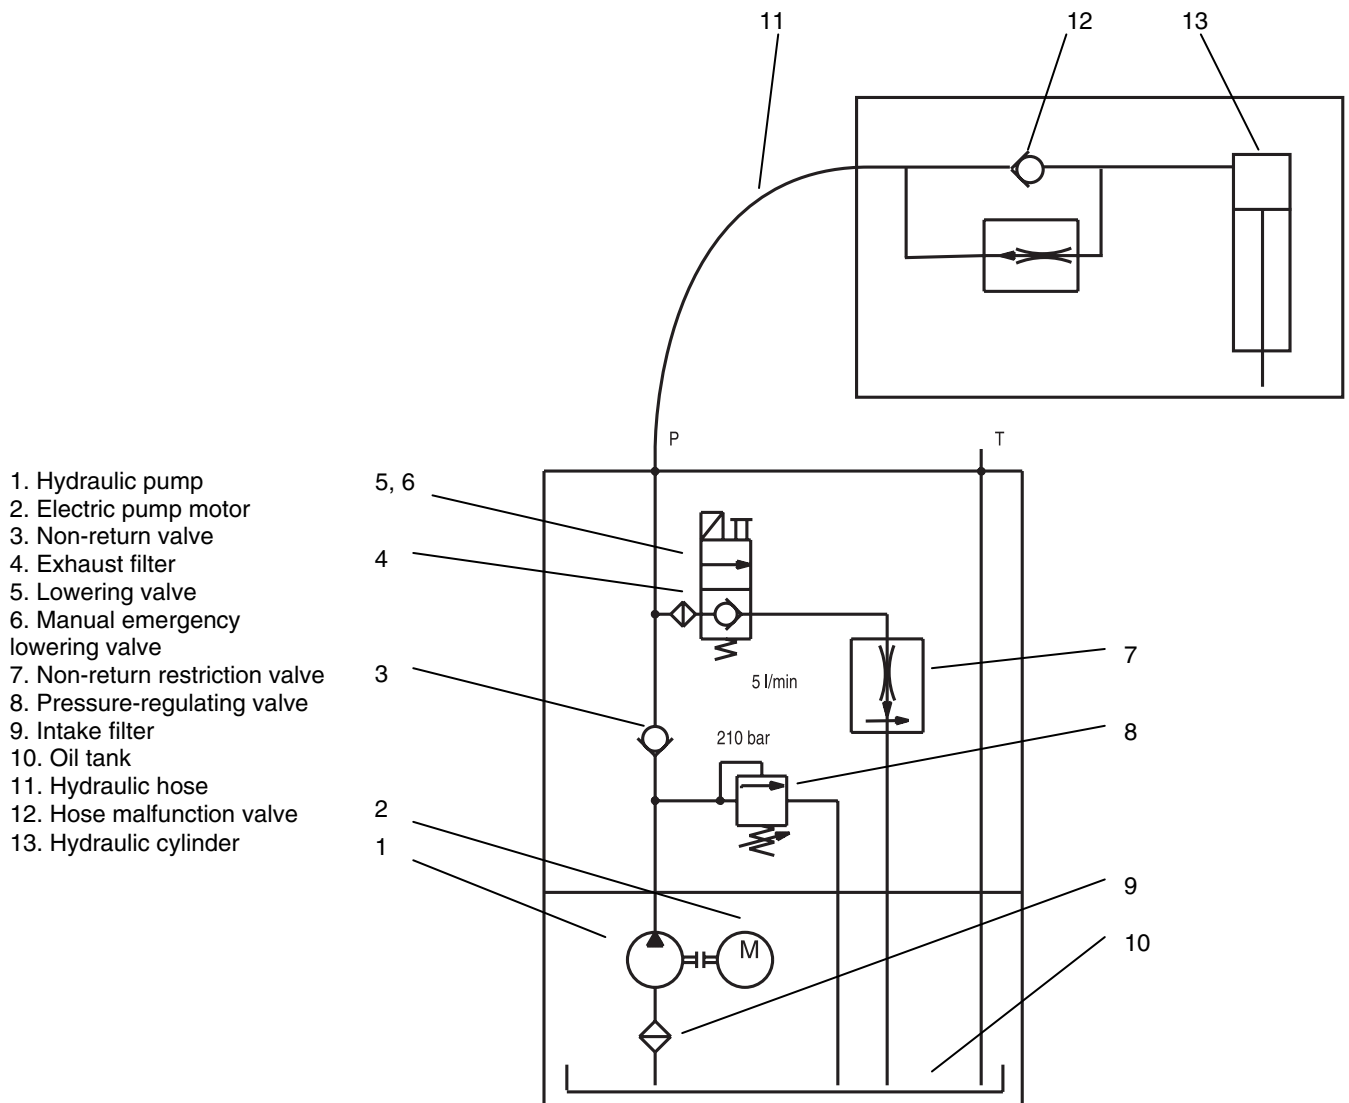

Figure 1.3 Hydraulic flow chart
The pump has a built-in pressure-regulating valve (8), see Figure 1.3, which prevents overloading. If pressure should become excessive, the pressure-regulating valve shunts oil back to the tank. The valve pressure setting is done at the factory and the valve is sealed. If oil pressure becomes excessive (overloading), the sound of the pump changes markedly.
The hydraulic cylinder has a hose malfunction valve (12), see Figure 1.3, built into the lower end of the cylinder. This valve causes the lift to lock up entirely or sink slowly in the case of a break in the hydraulic hose or other leakage.